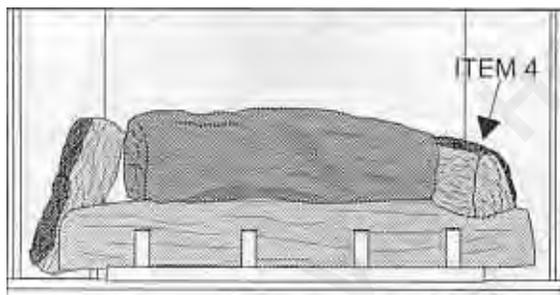

Figure 64
5. See Figure 64. A second small, thin log (Item 4) is installed next. Position this log with the "bark" to the right. This log is placed with the front edge resting on the front log and the back edge resting on the Burner Pan Assembly.